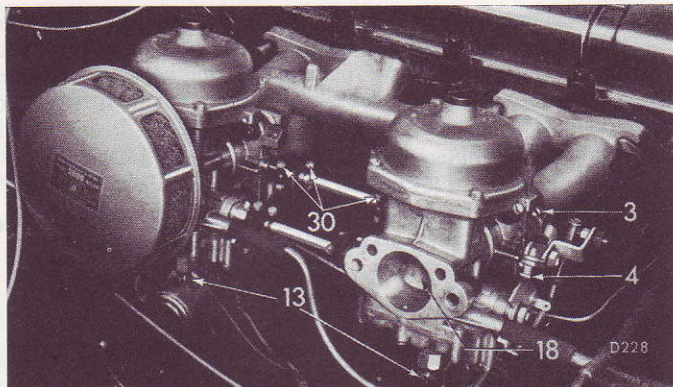

Fig. 46 (top)
**NOTE.** Although gauze filters are shown on Figs. 46 and 47, paper element filters are fitted to production vehicles.